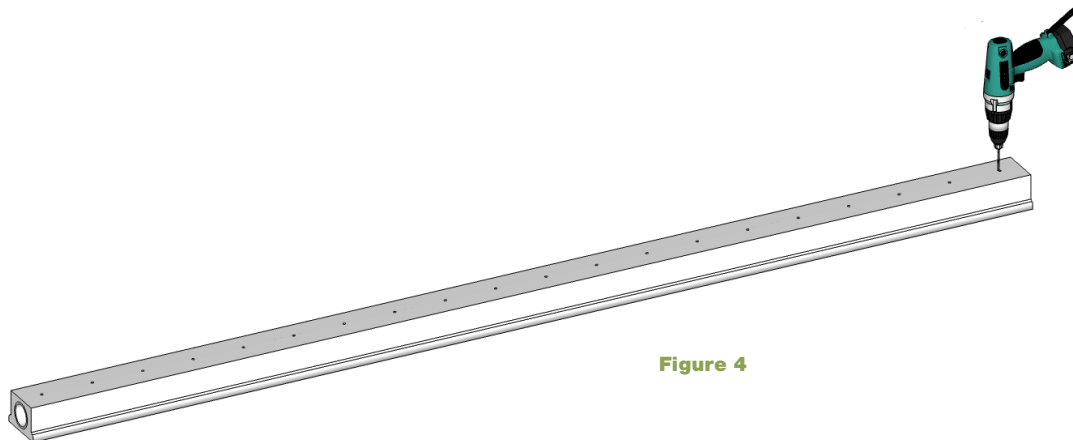

Figure 4
- Mark along the center of each rail where baluster rods will be installed into rails using the recommended 'on-center spacing' (OCS). The recommended OCS prohibits a 4" sphere from passing through the balusters at any point in compliance with national building codes. If not spacing to code, use desired on center spacing. Apply same method for both top and bottom rail. See figure 4.
- Drill $\frac{3}{4}$ " diameter holes into the marked locations for baluster rods to insert. See figure 4.